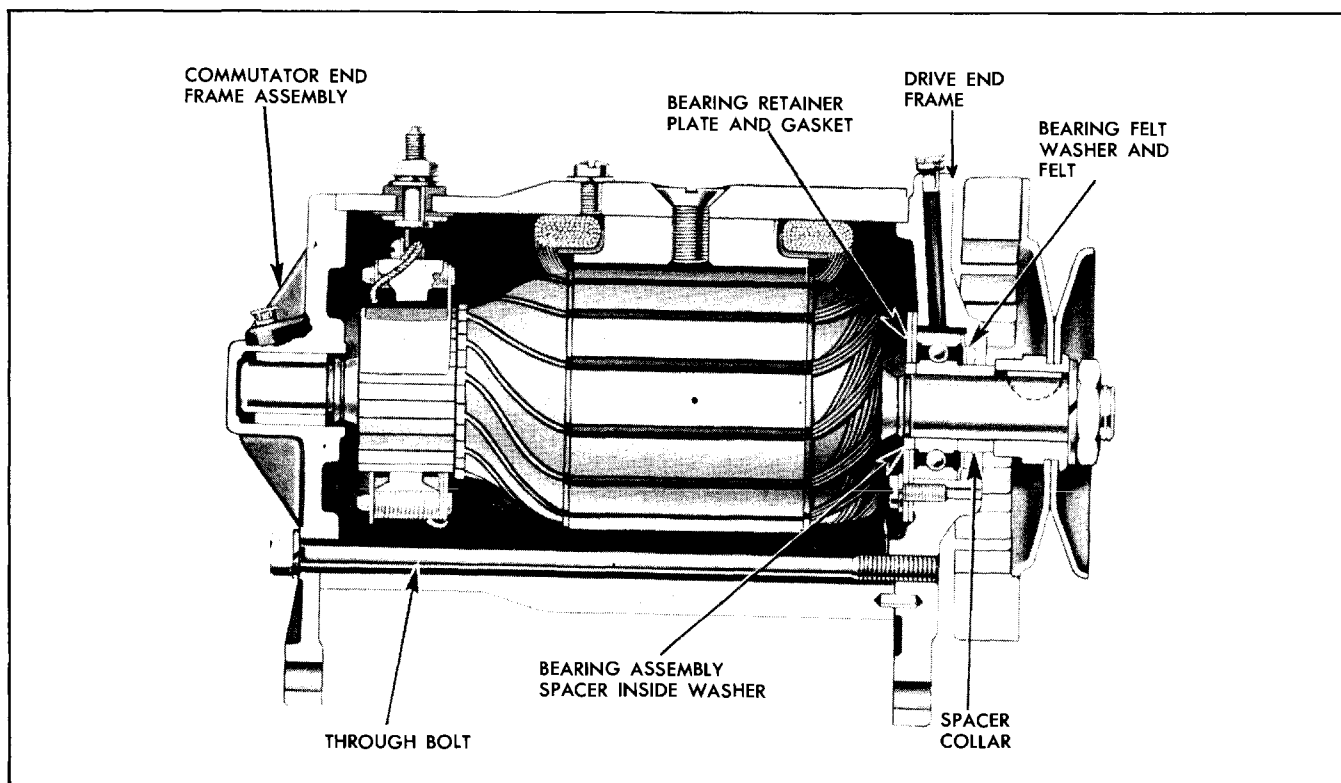

Fig. 12-13 Standard Generator—Cross Section
2. Remove two through bolts and remove commutator end frame assembly (Fig. 12-13).